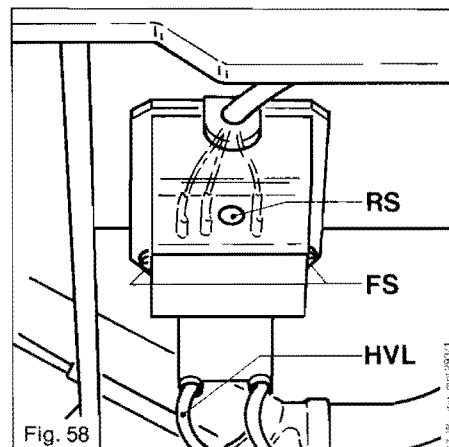

Fig. 58
14.6.7 Change of ignition transformer (Fig. 58)
Gently rotate box to gain access to the ignition transformer and remove retaining screw (RS, fig 58).